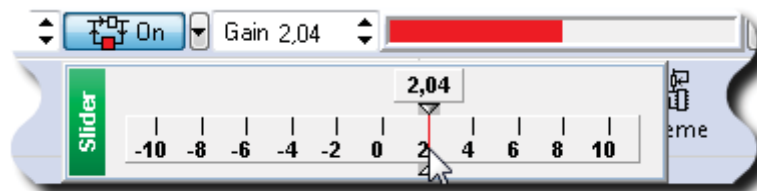

Fig. 13-24. Adjusting slider of the **Gain**
- a. Double-click on the **Gain** field (Fig. 13-24).